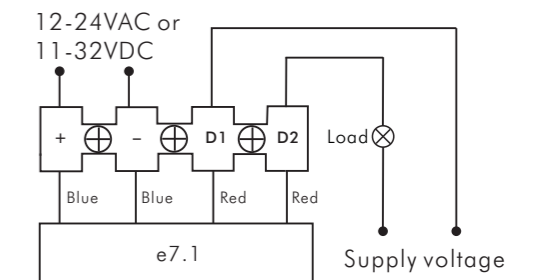

FIG.5
- 3.4.3 Connect the wires refer to wiring diagram (See FIG.5).